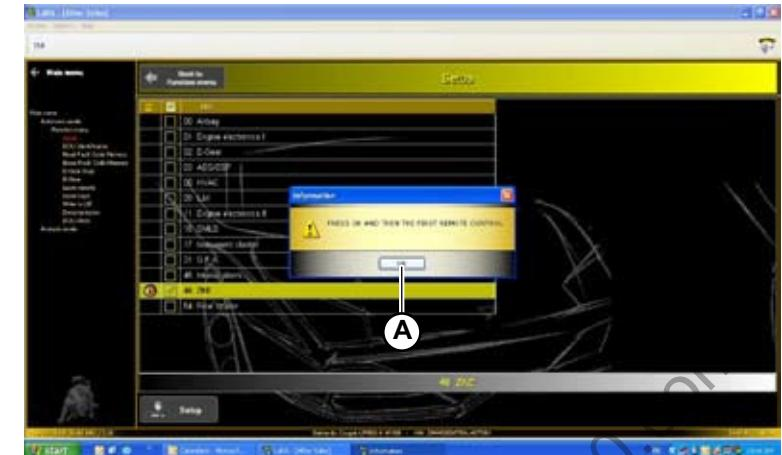

Fig.83
- Press “OK” to start (A-Fig.83).